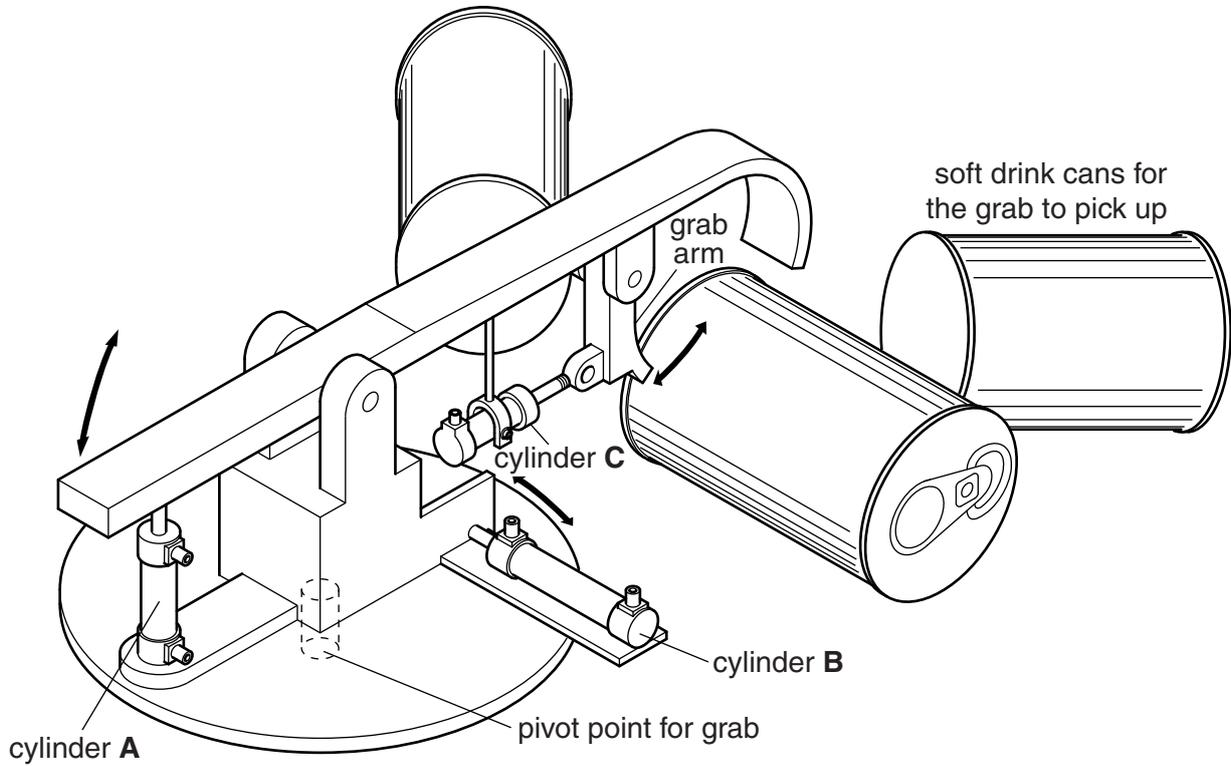
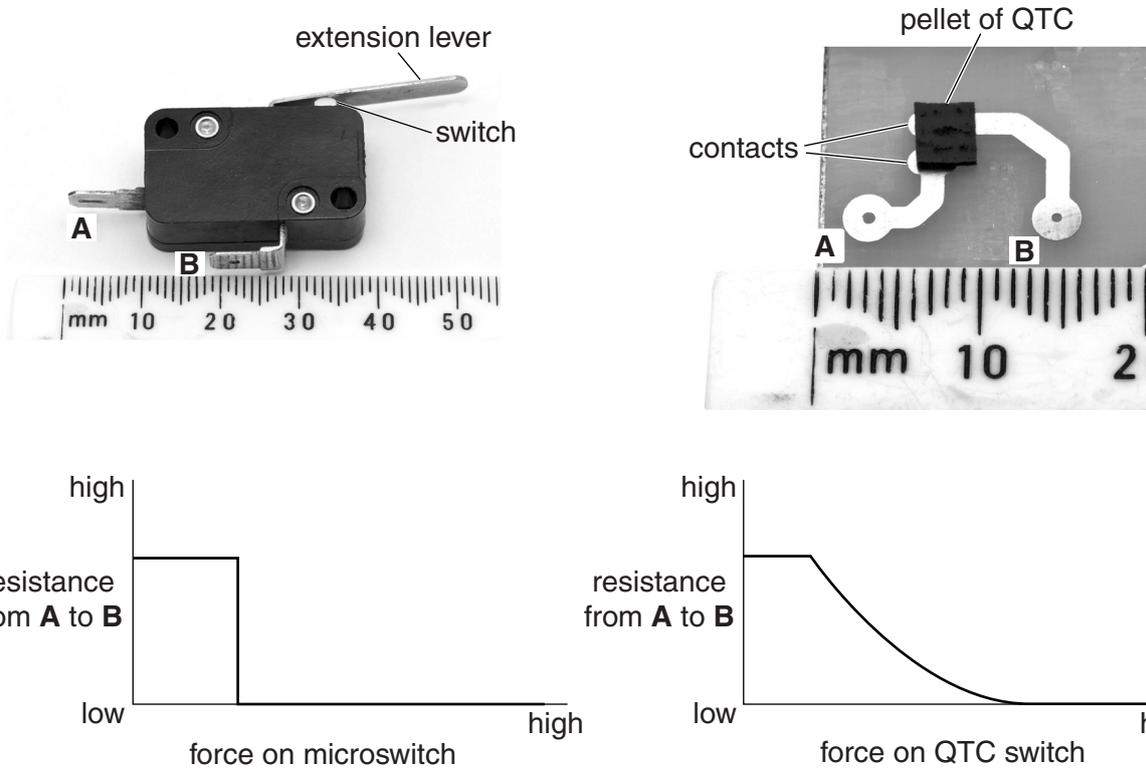

Fig. 1
Fig. 8
- 1 Fig. 1 shows an incomplete layout of a pneumatic grab game found in amusement arcades. The pneumatic grab is controlled by 3 cylinders **A**, **B**, and **C** which position the grab arm to close around a can of soft drink, allowing it to be picked up.
- (ii) Quantum Tunnelling Composite (QTC) is a modern material that can be used to sense an applied force in a device such as the grab arm in Fig. 1. Another sensor that could be used is a microswitch. Details of both sensors are shown in Fig. 8.